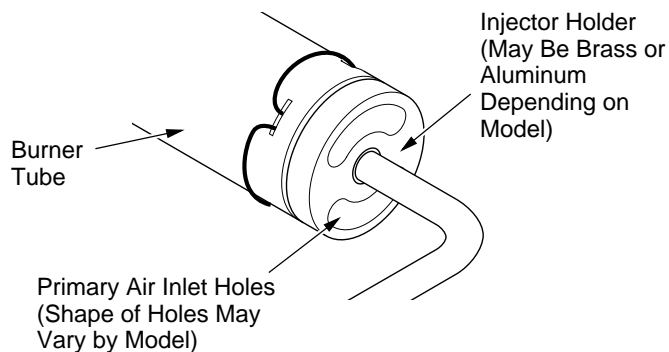

Figure 40 - Injector Holder On Outlet Burner Tube
- Inspect burner, pilot, and primary air inlet holes on injector holder for dust and dirt (see Figure 40).